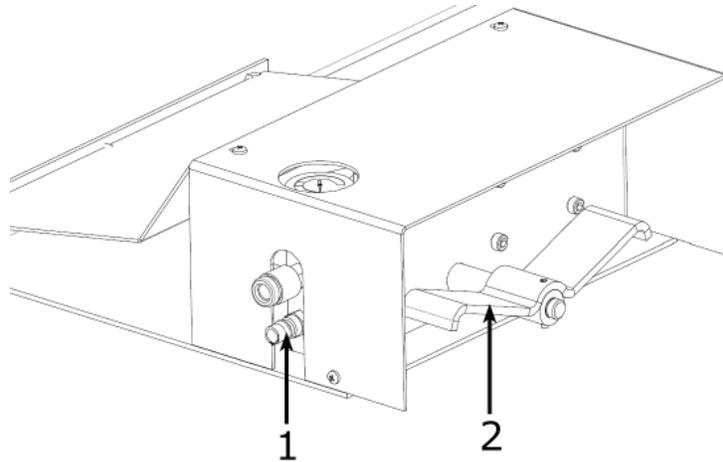

Fig. 14
- Connect the compressed air supply to the inlet union (1/Fig. 14).